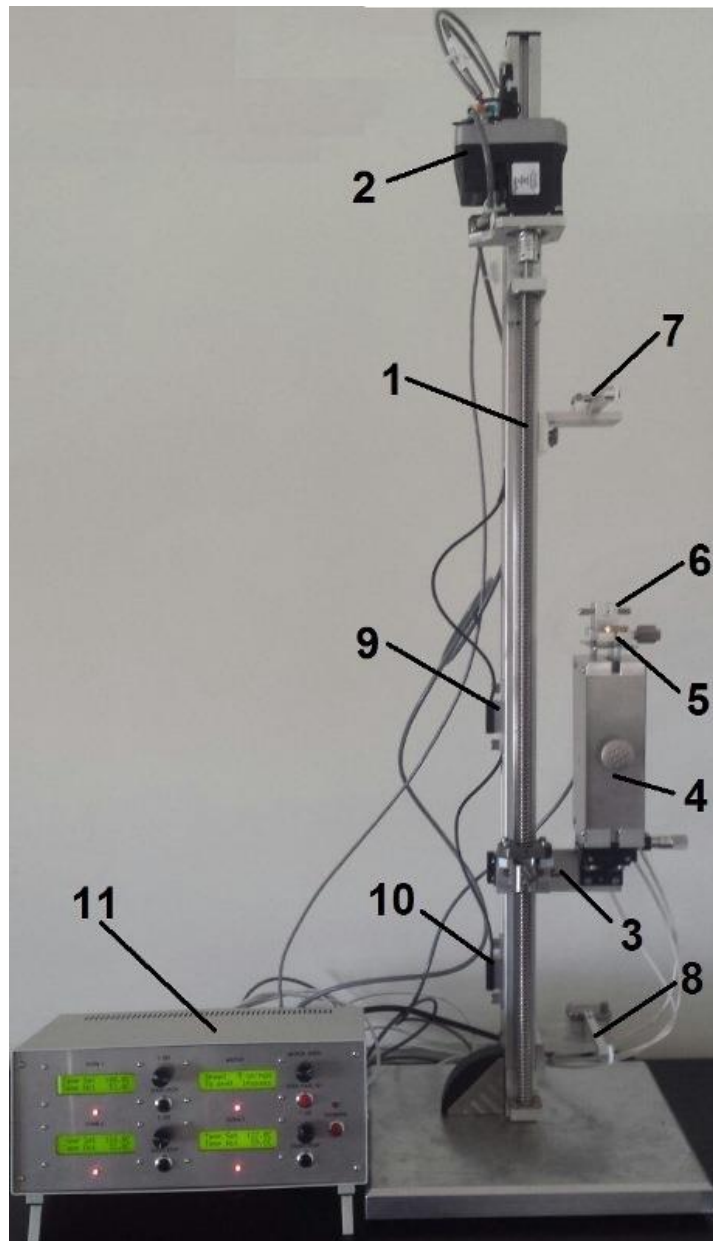

Fig.1 General view of the device
2.1. General view of the device is shown in Fig.1
- Insert fiber into the slot between two fiber holders **7** and **8** (Fig.1);